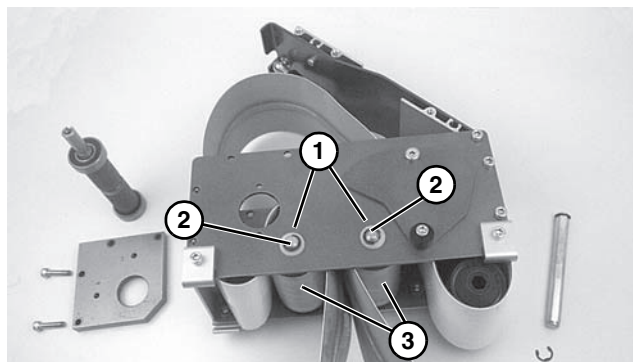

Figure 55
- For 2” (44 mm), 3” (70 mm) or 4” (95 mm) wide conveyor, detach E-ring clips and remove washers (**Figure 55, item 1**). Remove pulley shafts (**Figure 55, item 2**) and pulleys (**Figure 55, item 3**).